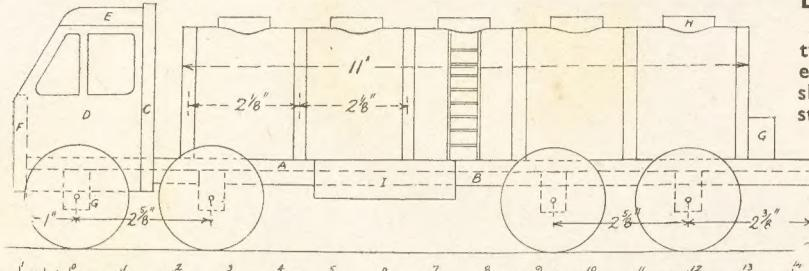
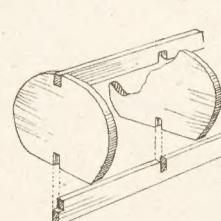

Fig. 2—Side elevation with dimensions of parts
Fig. 5—Rear section
In Fig. 2 is given a scale diagram of the side view with certain dimensions added which will help in the construction. Beneath this diagram is added a scale, and the idea of this is to help in scaling off some of the parts which may not be exactly clear to the worker. With the aid of a pair of dividers or even a pair of compasses it is quite a simple matter to span the required parts and hold the instrument on the scale.
The front one needs cutting down a little in excess of the others to fit between the sides of the cabin. The rear three axles fit in between the sides (B) and are notched out to fit round them as seen in the cross sectional view, Fig. 5. Get the axles square across the floor by first marking their positions and then add screws to make a good firm fixing through the floor. The proper spacing of the axles is given in Fig. 2.
The length overall of the tank is 11in., and it is made of four shaped uprights held together by two rails and afterwards covered round with stout card or thin plywood if this can be obtained. Each of the uprights is elliptical in shape, the two diameters being those shown in Fig. 5.